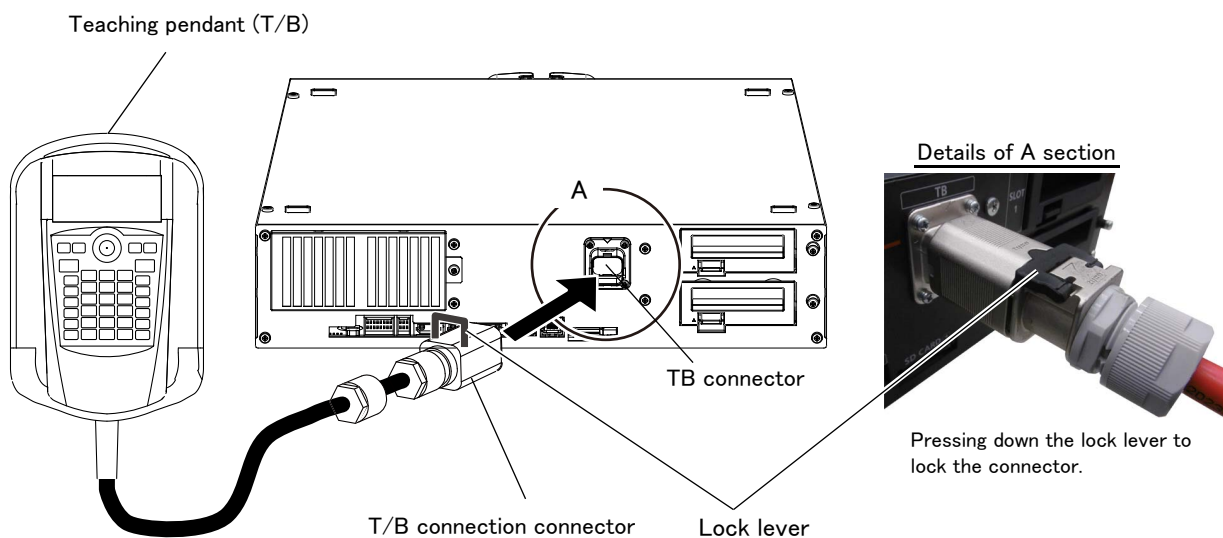

Fig.2-17:Installing the T/B
- 2) Refer to Fig. 2-17 and connect T/B connector to the robot controller.